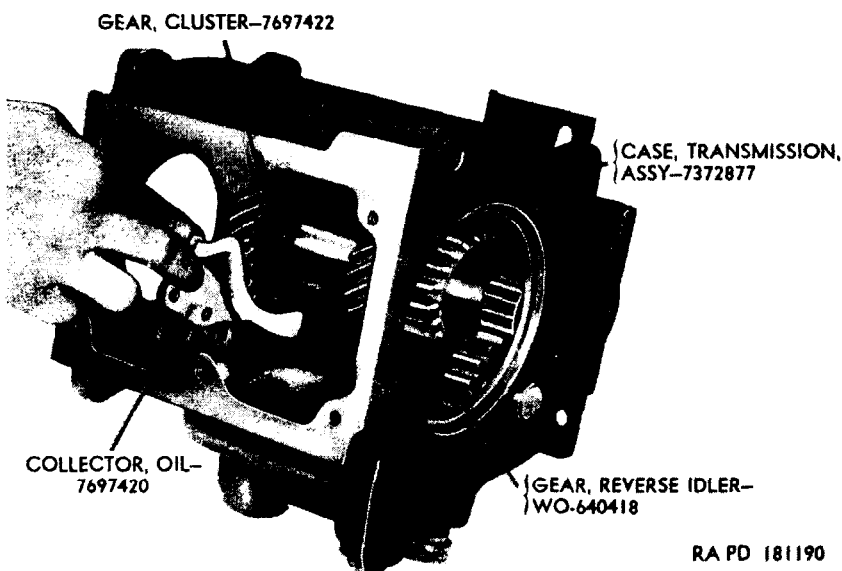

Figure 54. Removing transmission countershaft cluster gear oil collector.
- (4) *Reverse*. Power flow is from input shaft (A) to reverse idler shaft gear (fig. 54), to first and reverse speed sliding gear (W), and to main shaft (CC).
b. *Remove Countershaft Clus'er Gear Oil Collector* (fig. 54). Remove two socket-head bolts and gaskets securing countershaft cluster gear oil collector to transmission case. Lift the collector from the transmission case assembly. produced by Military Media Inc., copyright 1999